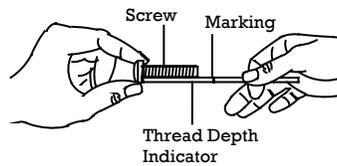

Figure 2
- Step 2.** Using a pencil, mark the depth of the thread insert on the thread depth indicator (Figure 2).
If your selected screw is longer than the marking on the thread depth indicator, do not use this screw. The screw length must not bypass the marking. If so, select another screw size (Figure 2 and 3) until you find the screw the comes closest to your mark without going past the marking.